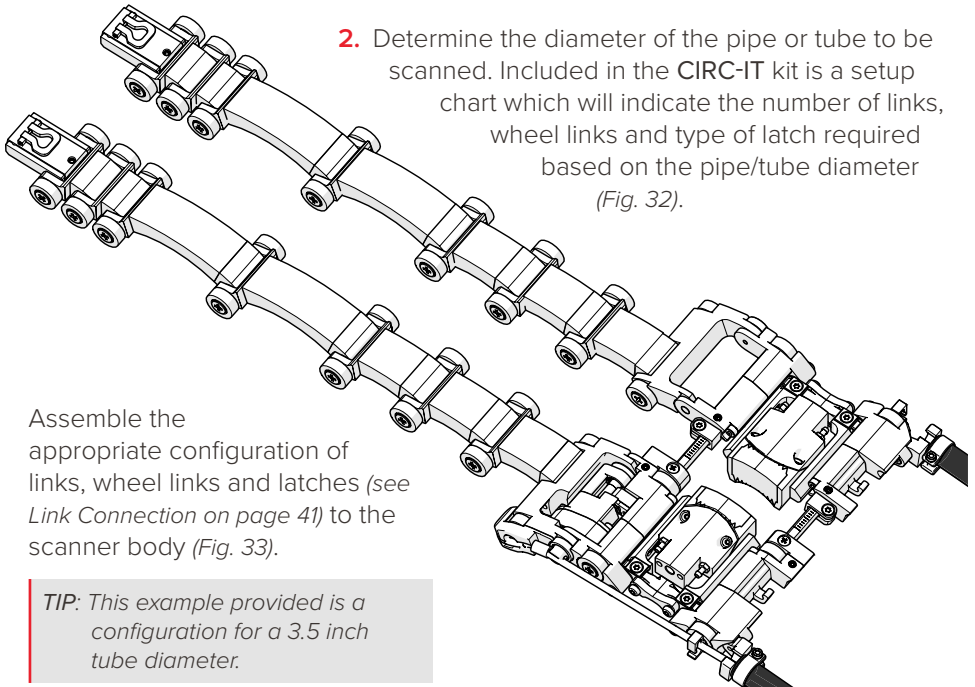

Fig. 33 - Assemble links on a flat surface
3. Assemble the appropriate configuration of links, wheel links and latches (see *Link Connection on page 41*) to the scanner body (Fig. 33).